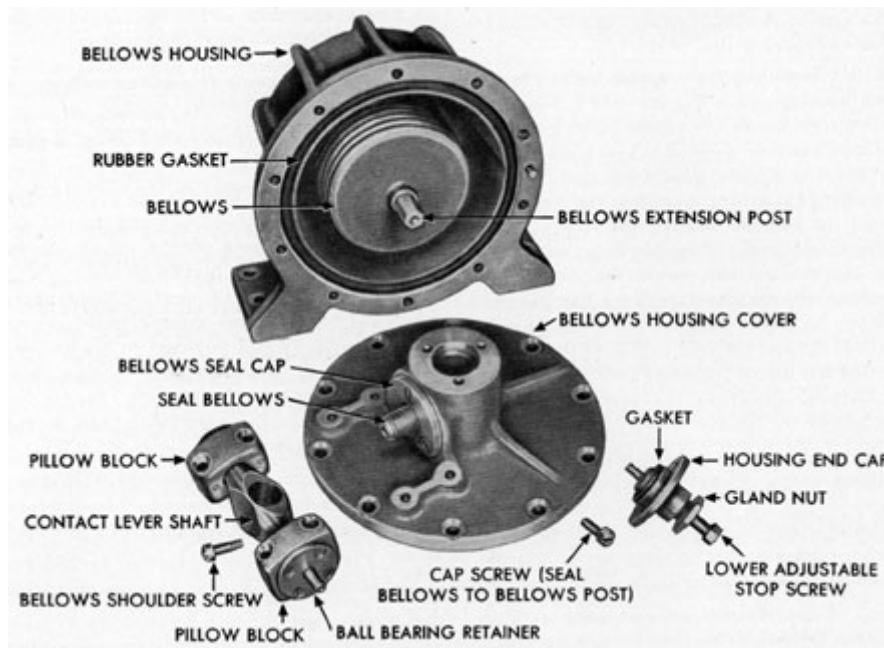

Figure 5-37. Bellows housing assembly, old installation.
**5K19. Assembling and installing the bellows housing cover.** (See Figures 5-37, 5-38, and 5-39.) Mount the seal bellows and stud with a gasket in the housing cover. Place the cover with a rubber gasket on the bellows housing. Then carry out the following procedure: